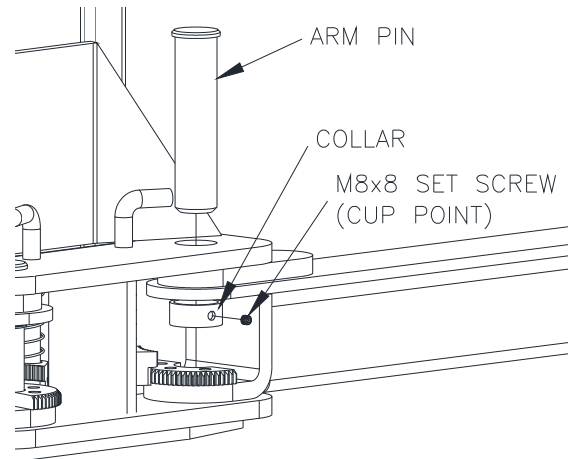

Fig. 11 –Arm Install
- 33) Lubricate the arm pin or carriage arm pin hole with “anti-seize” and install the arms as shown in **Fig. 11**. Once the set screw is finger tight against the arm pin, tighten 1/4 turn with allen wrench.